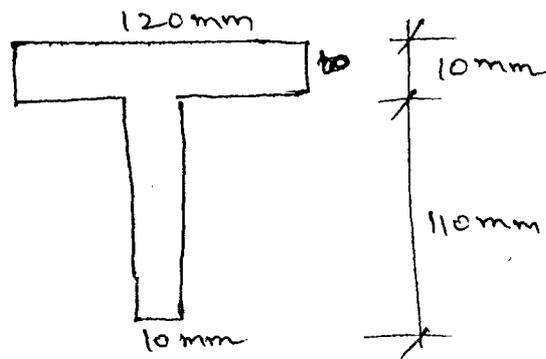

Fig. 15 (a)
15. (a) Determine the shape factor for the T-section in Fig. 15(a).